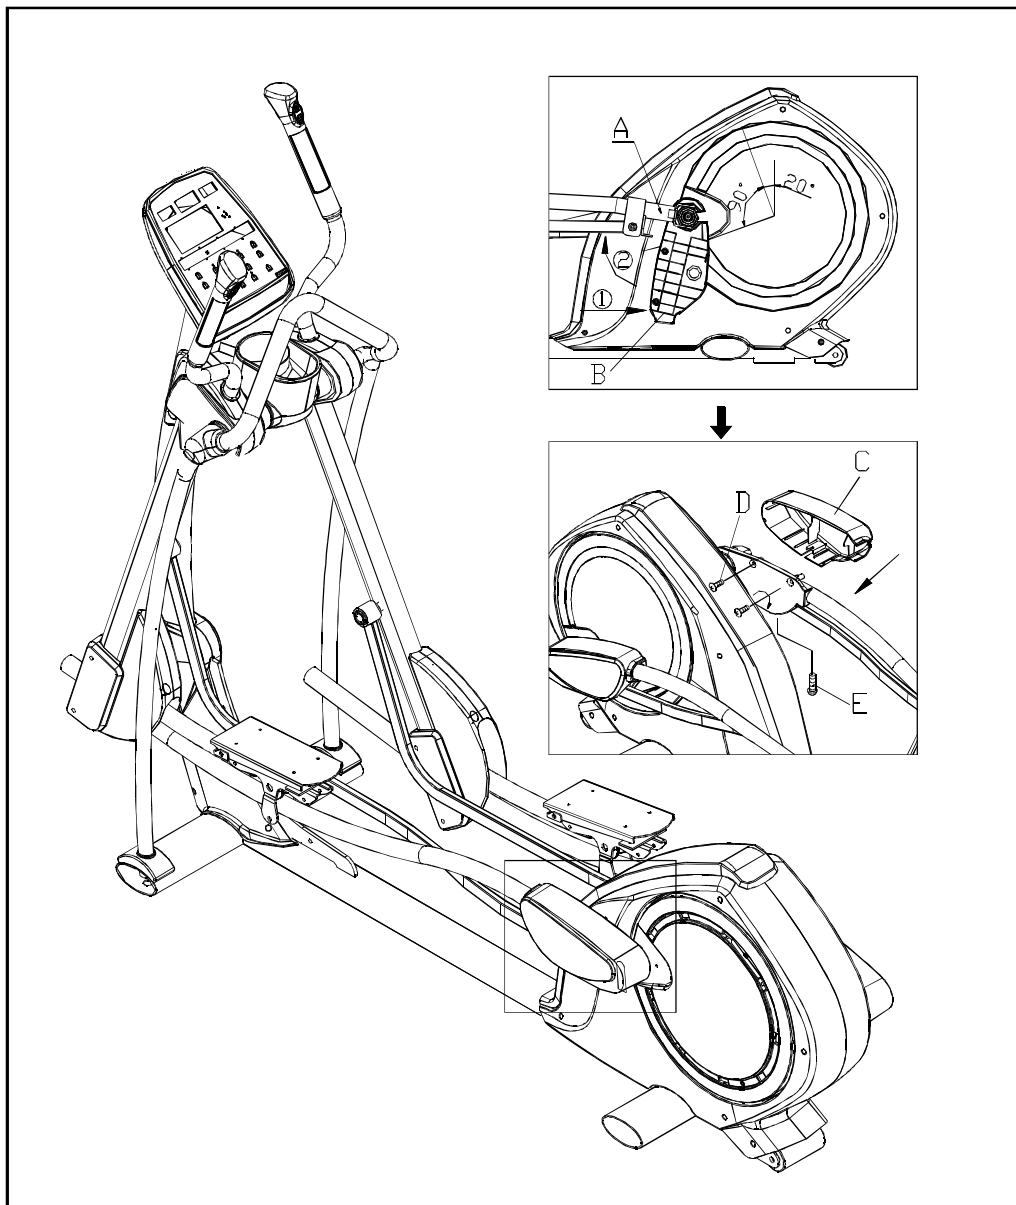

Fig.6
STEP 1. Move the Glide Rail (A in the top right diagram of Figure 6) to the upper left part of the flywheel within the 90-degree indication. Hook the Park B onto the Glide Rail.